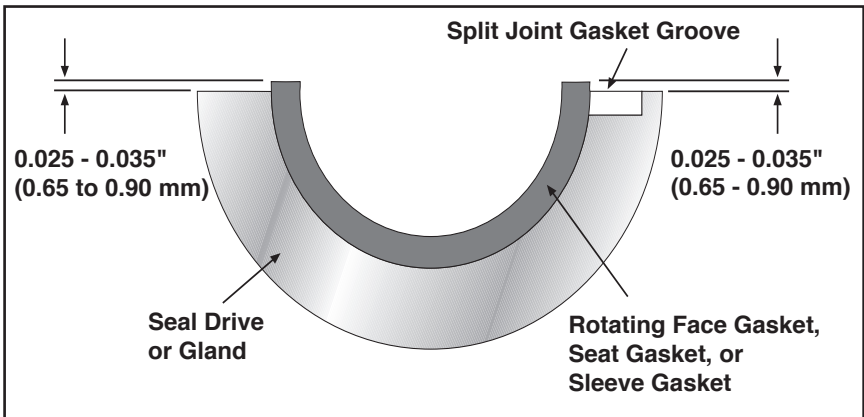

Figure 3
- 2.2 **Gasket Length** - Be sure that the rotating face gasket, stationary face seat gasket, and seal drive sleeve gasket are 0.025 to 0.035 inch (0.65 to 0.90 mm) longer than the surfaces where they end. See Figure 3. If they are not, reposition them accordingly.